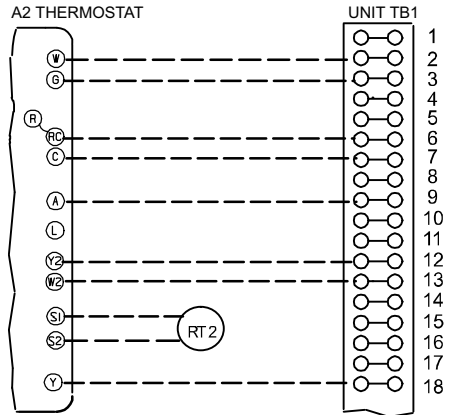

Figure 7. Wire LG/LC/LH/SG/SC Units.
- See figure 7 through 10 for wiring diagrams from specific equipment applications.
- Wire the "A" terminal as shown in diagrams in figures 7, 8, 9 and 10.